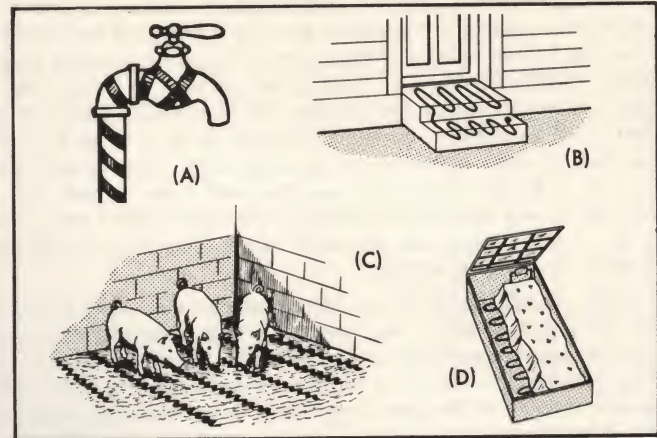
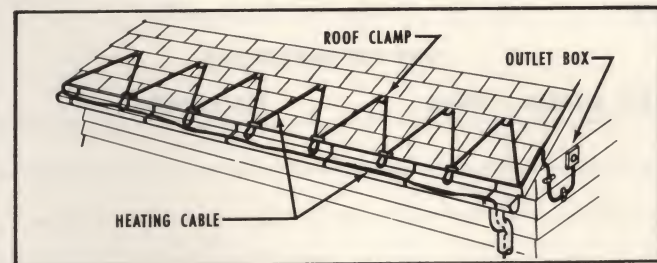

FIG. 108—HEATING TAPE APPLICATIONS
FIG. 109—TAPE USED FOR WINTER ROOF DRAINAGE
**USES OF CABLE AND TAPE.** A practical method of avoiding frozen water pipes is to protect them with electric cable or tape. It should be wrapped around exposed water pipes (Fig. 108-A) to prevent them from freezing. Gutters and downspouts may also be protected with the same type cable. Lay cable in gutters, drop it into downspout and fasten to roof with special clips. (See Fig. 109.) Adequate winter roof drainage prevents water damage to a building's interior caused by back up of water under roof.
Cable buried in concrete steps (Fig. 108-B), sidewalks and driveways melts snow electrically. On farms, heating cable in floors of sow farrows (Fig. 108-C) and chicken pens helps produce healthy hogs and poultry during winter months. Fig. 108-D shows cable installed in a hotbed to give plants an early start.